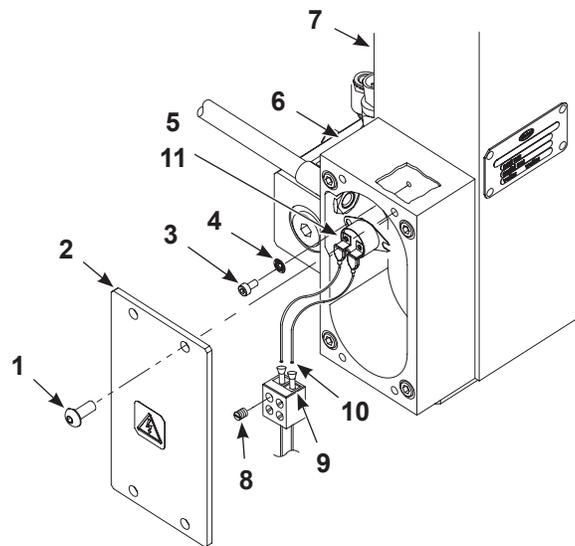

Figure 20 Replacing the Thermostat
1. See Figure 20. Remove the screws (1) securing the side cover (2) to the heater box (6).
2. Loosen the screw (8) on the connector (9) and remove the thermostat wires.
3. Remove the screws (3) and lock washers (4) securing the thermostat (5) to the housing (7).
4. Apply heat sink compound (10) to the thermostat (5). Install the thermostat using the lock washers (4) and screws (3). Tighten the screws securely.